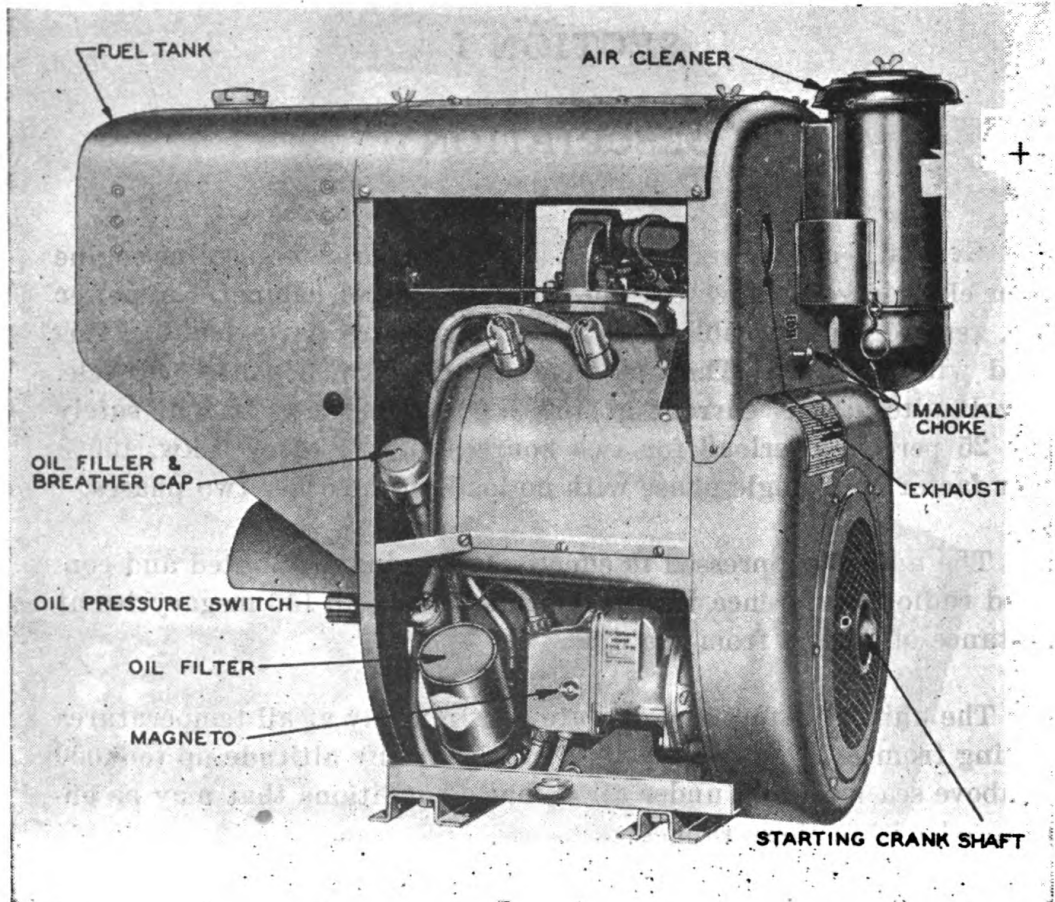

Figure 2.—Engine, Right Side, With Covers Removed
2. **Components.**—*a. Engine (fig. 2).*— The engine is a 4-cycle, air cooled, 4 cylinder, V type and has a 3 in. bore  $3\frac{1}{4}$  in. stroke, 91.9 cubic inches piston displacement and is equipped with a high-tension magneto and impulse coupling. It develops 20.5 brake horse power at 2,200 rpm and operates on commercial 80 octane leaded gasoline or gasoline to U. S. Army specification No. 2-103. It will operate on approximately 2 gallons of gasoline per hour at full load. The unit is equipped with a  $9\frac{3}{4}$  gallon fuel tank, diaphragm type fuel pump and a 3-way gasoline valve to which the 20 foot auxiliary fuel line may be attached for pumping fuel from a remote supply tank. A muffler and a 10 ft. flexible exhaust hose are provided to enable carrying the exhaust away from the unit.